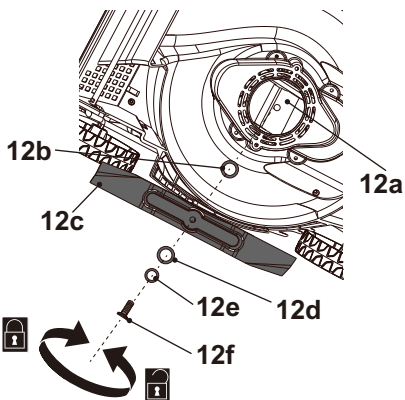

Fig. 21
1. Keep the underbody and cutting blade (12c) clean and free of debris. Remove clippings from the rear discharge chute (19).
4. Loosen the hex nut (12f) anti-clockwise using a suitable wrench (Size 13 mm) and remove it together with the cutting blade (12c), the flat washer (12d) and the spring washer (12e) (Fig. 21).